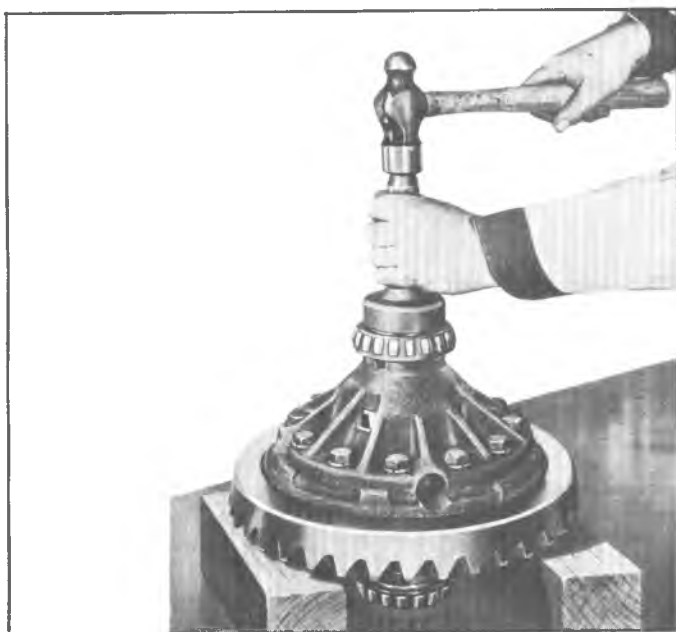

Fig. 5E—Differential Bearing Installation
6. When installing the second bearing, support case on pilot plug as shown in figure 5E to prevent damage to first bearing installed.